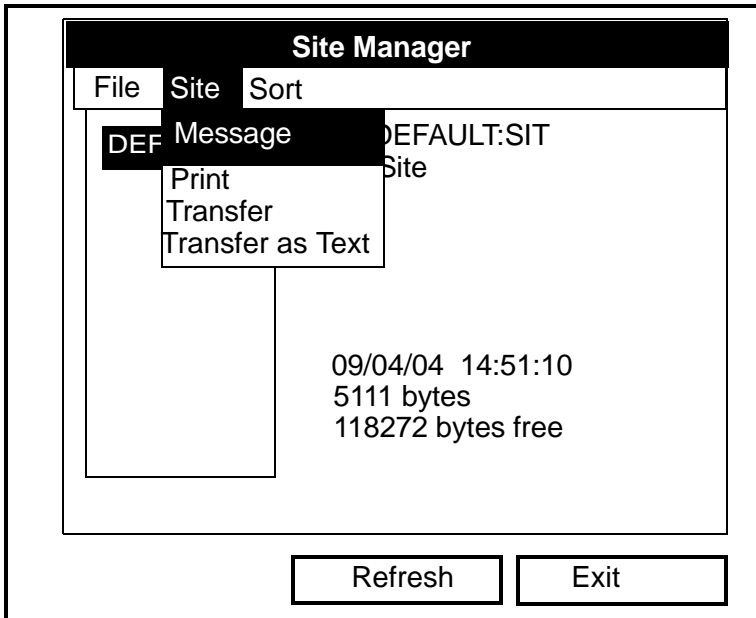

Figure 5-11: The Site Menu in the Site Manager
You can access four additional functions from the Site submenu (shown in Figure 5-11 on page 5-11).
1. Press [MENU] to enter the File Menu. Then press the [▶] arrow key once to scroll from the File Menu to the Site Menu. Press [ENTER]. The screen appears similar to Figure 5-11 below.